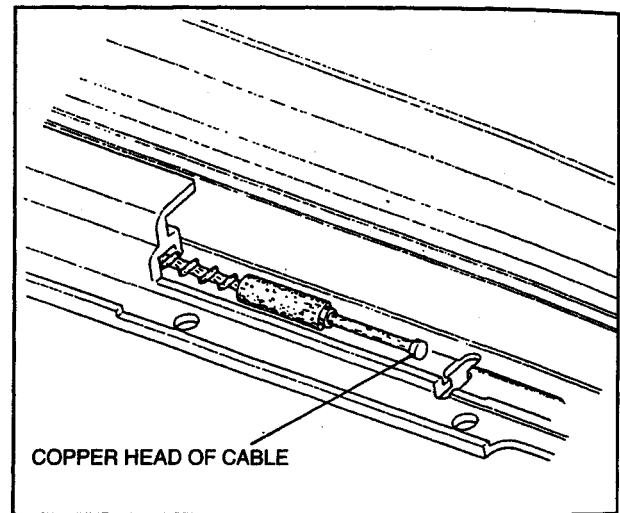

Fig. 13. Cable Positioned in Rail.
17. Inspect for proper length of new cable, grease and slide into rail. Make sure the oval shaped copper head of the cable seats firmly and diagonally across the guide channel (Fig. 13).
Slide mechanism forward until pin stops the mechanisms movement at the desired location. (Fig. 13).